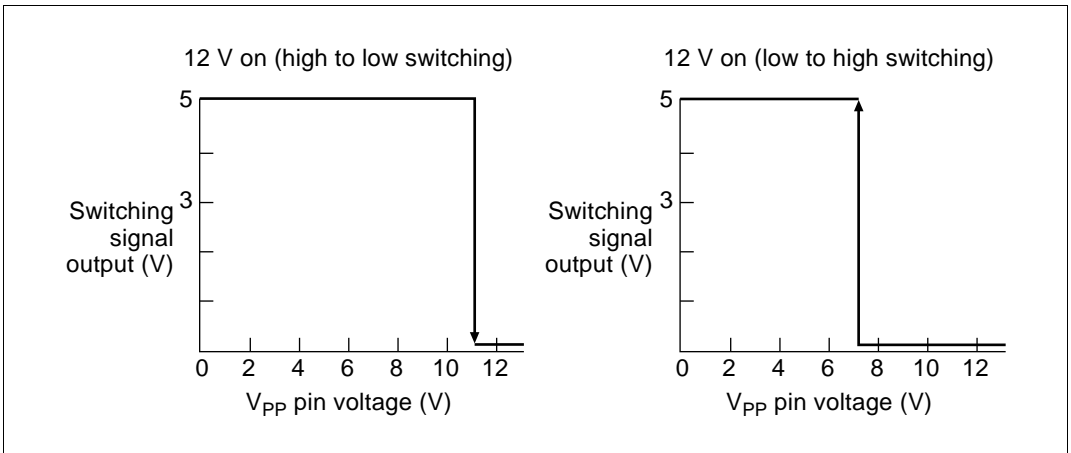

Figure 3.7 12-V Detector Circuit I/O Characteristics
- The 12-V detector circuit senses 12 V applied to the Vpp pin (approx. 10.9 V) and outputs a low level switching signal to the SCI switching circuit. When a voltage of about 7.6 V or less is detected, the circuit outputs a high level switching signal to the SCI switching circuit. Figure 3.7 shows the input/output characteristics of the 12-V detector circuit.